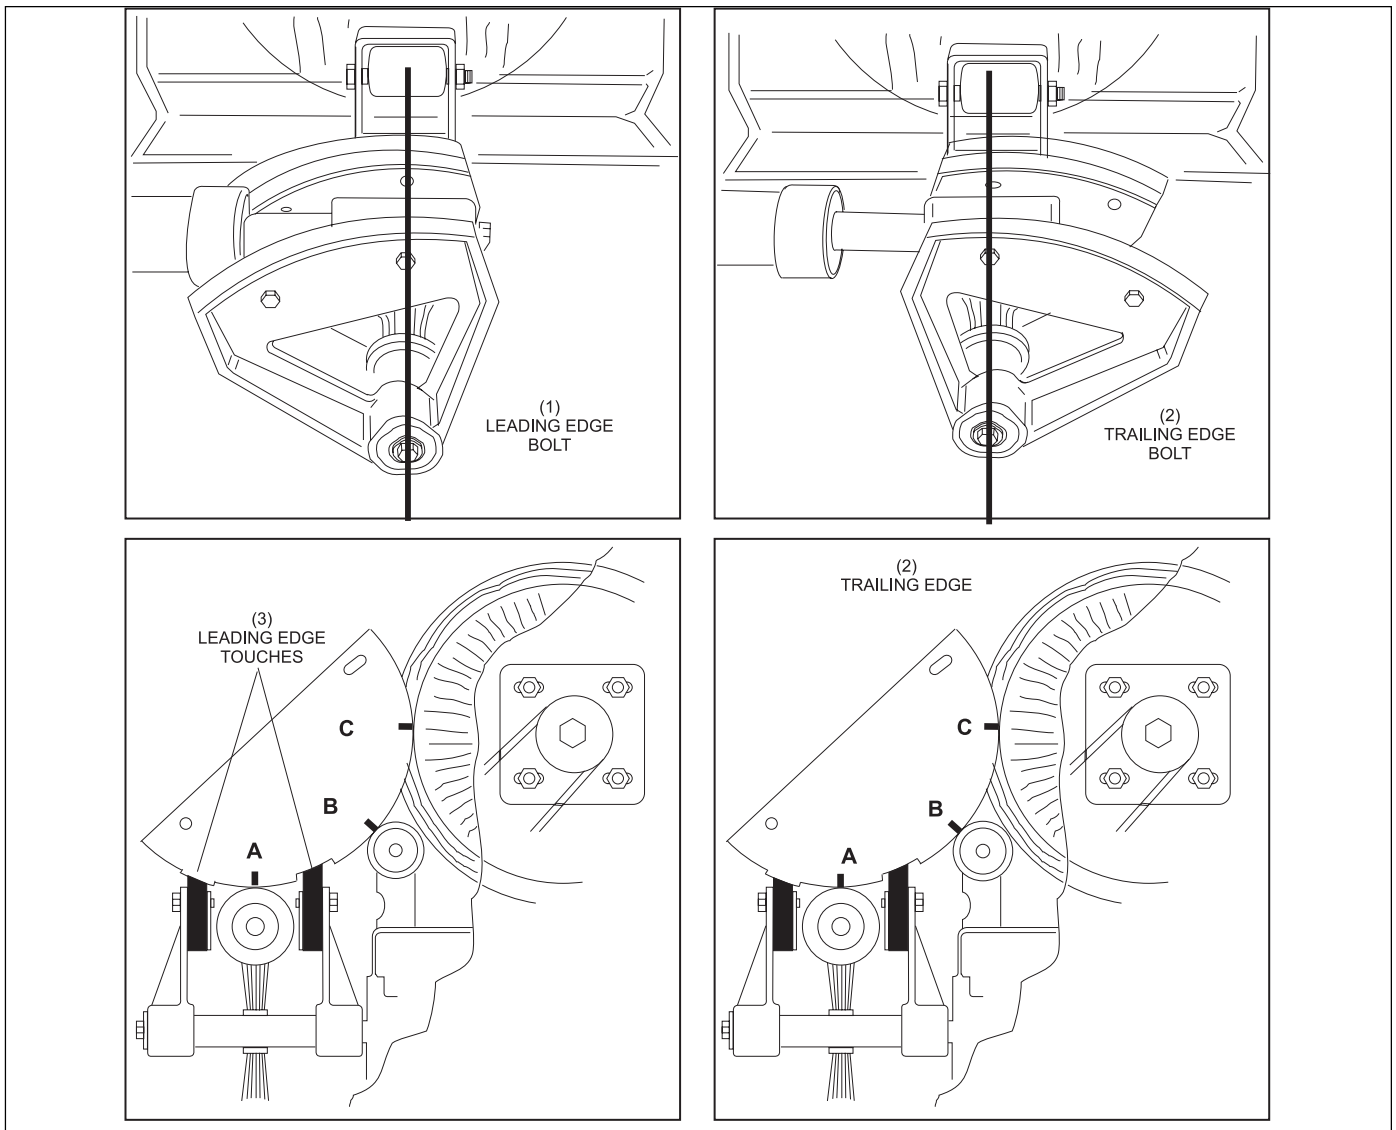

Figure 13. Adjust Oscillator Bumper
12. Rotate the oscillator arm to the trailing edge and adjust the trailing edge of the oscillator bumper pad so that it just touches the cut out in the template. Tighten leading edge bolt. Refer to *Figure 13*.